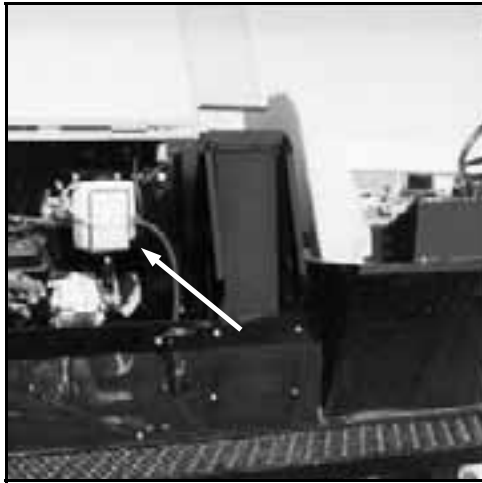

FIG 7.9
**COOLANT RESERVOIR** - The coolant reservoir is located under the right-hand hood behind the radiator (fig 7.9). Check its level everyday while the engine is cold. Maintain the coolant reservoir level within the normal cold range marks.